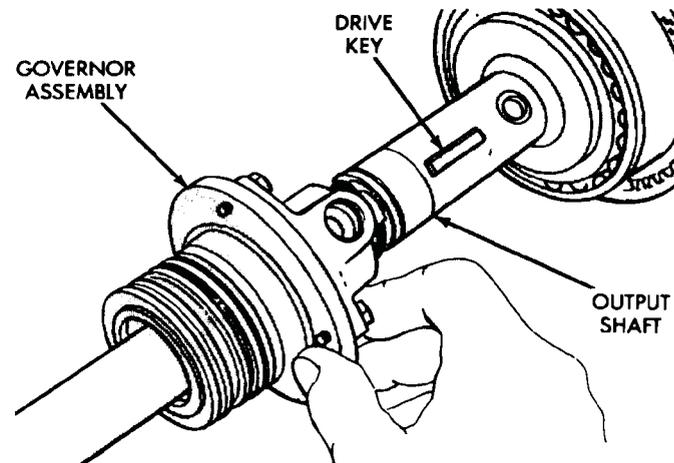

**Fig. 64 Front Bearing And Drive Key Installation**
(1) Install front bearing and snap ring on output shaft (Fig. 64). Be sure locating ring groove in bearing is toward rear of shaft. Otherwise, housing locating ring and bearing ring groove will not align. Remove and reposition bearing if necessary.
(2) Install governor drive key in output shaft (Fig. 64). Use petroleum jelly to hold key in place if necessary.